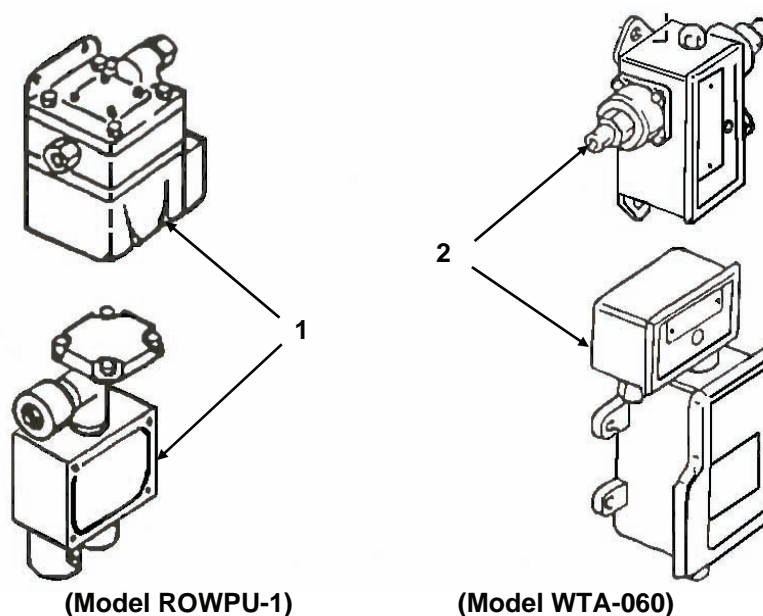

Figure 12. Pressure Switches
Pressure Switches (Figure 12). Various pressure switches are used in the piping system of ROWPU in order to indicate how various parts of the piping system are functioning. Pressure switches (1) used on Model ROWPU-1 have a different appearance than pressure switches (2) used on Model WTA-060. Although appearances differ, the function of each switch is identical. Repair procedures vary slightly and are described in related maintenance procedures.